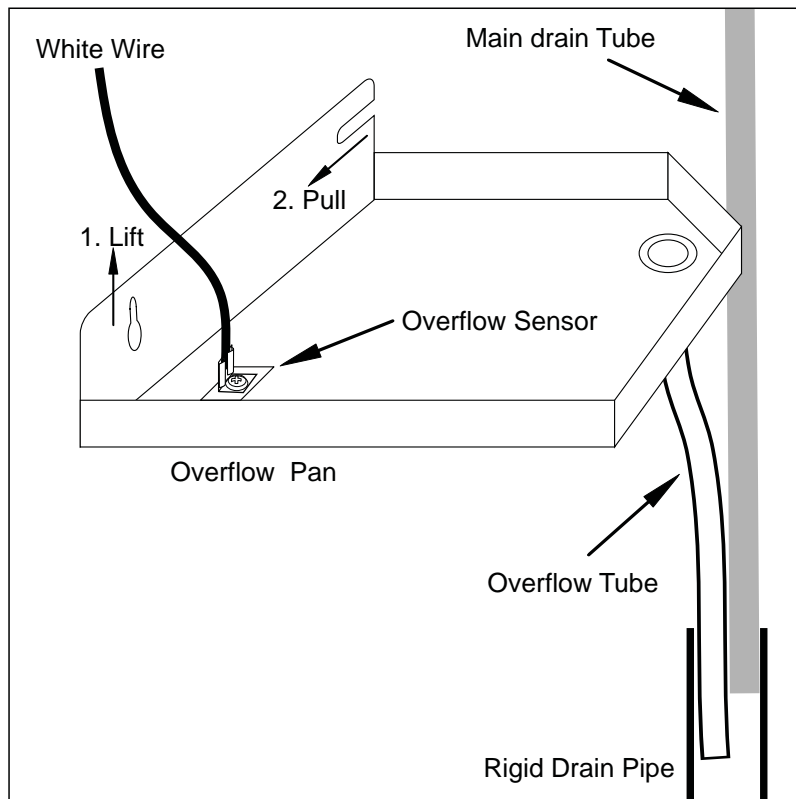

Fig. 8a
8.4 Unplug the white quick connect wire connected on the overflow pan at the bottom of the unit. This wire is connected to the overflow sensor. Please see Fig. 8a.
8.5 Pull the plastic tube attached to the bottom of the overflow pan out of the rigid drain pipe on the wall. You do not have to remove the plastic tube attached to the bottom of the pan. Remove the overflow pan from the unit by lifting the front of the pan off the screw and pulling it towards you, slightly loosen the front screw if necessary. Please see Fig. 8a. Also remove the main drain tube from the rigid drain pipe attached to the wall and check that both tubes are clean and clear from deposits.